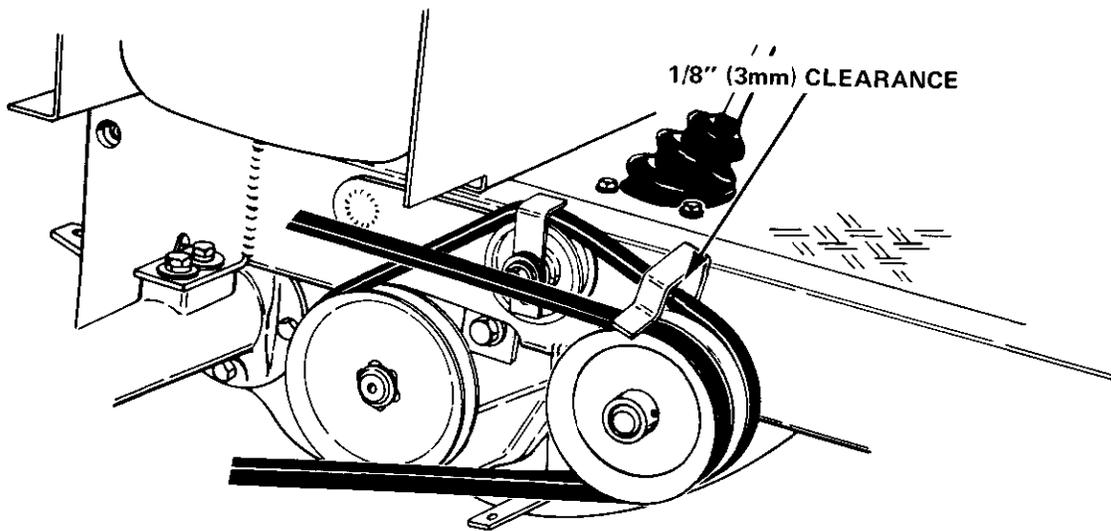

Figure 13
3. Adjust belt keeper as follows: (Refer to Figure 13.)